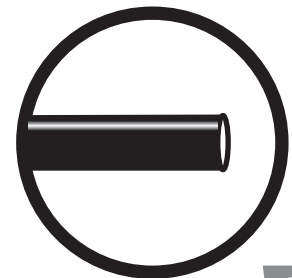

fig. 25
- a. Check the air line connection by deflating the spring and removing the line by pulling the collar against the fitting and pulling firmly on the air line. Trim 1" off the end of the air line. Be sure the cut is clean and square (see fig. 25). Reinsert the air line into the push-to-connect fitting.
2. If the preceding steps have not resolved the problem, call Air Lift customer service at (800) 248-0892.